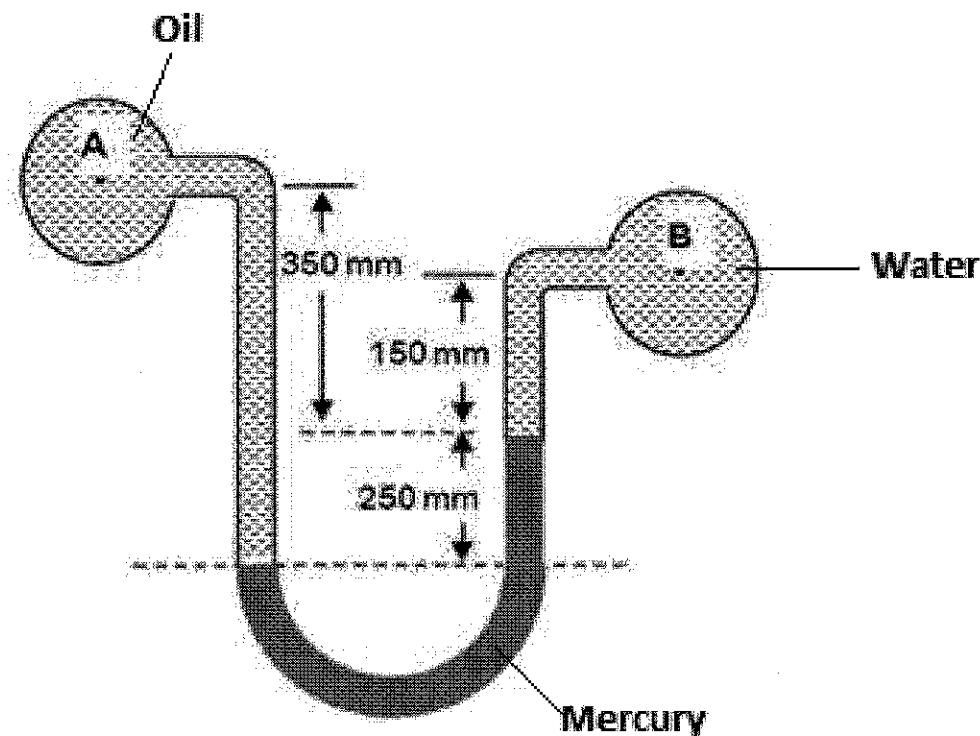

Figure 2(c) / Rajah 2(c)
- (c) A U-tube differential manometer as shown in **Figure 2(c)** which contains mercury of specific gravity 13.6 is connected to different pipes at A and B. Pipe A contains of oil with specific gravity 0.92 and pipe B is carrying water. If the pressure at point A is 125 kNm^{-2} , calculate the pressure at point B.